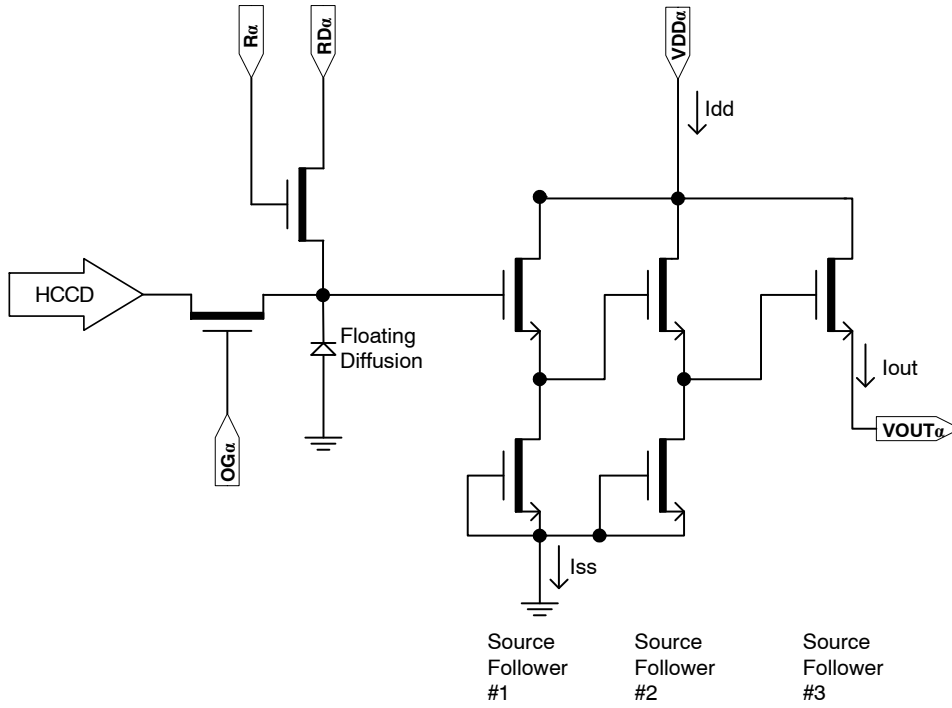

Figure 20. Output Amplifier
- The maximum DC current is for one output. I_{dd} = I_{out} + I_{ss}. See Figure 20.